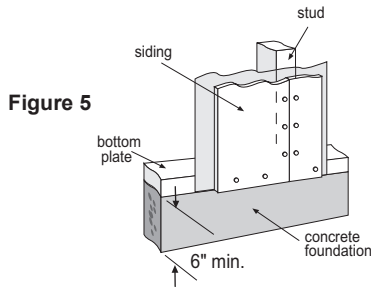

Figure 5
- When installing James Hardie products all clearance details in figs. 5,6,7,8,9,10&11 must be followed.